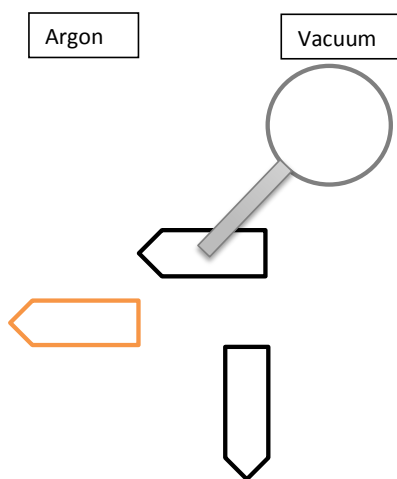

Figure 1 – system is open to argon
On an everyday basis, each solvent should look like figure 1. Please check the argon tank to ensure that it is above 500 before using. If it is below 500, notify those in charge and it will be replaced by one of them. In addition, make sure the gauge (located on the left side) on the SPS is between 10 -15.
10. After 30 minutes, switch the system to argon for 5 – 10 seconds (should look like figure 1).
18. Finally, open the flask to argon by turning the bottom knob to a vertical position (should look like figure 1).